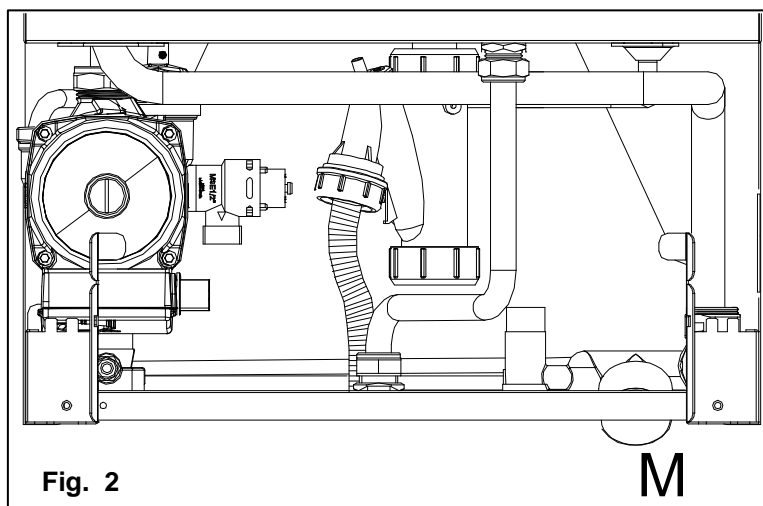
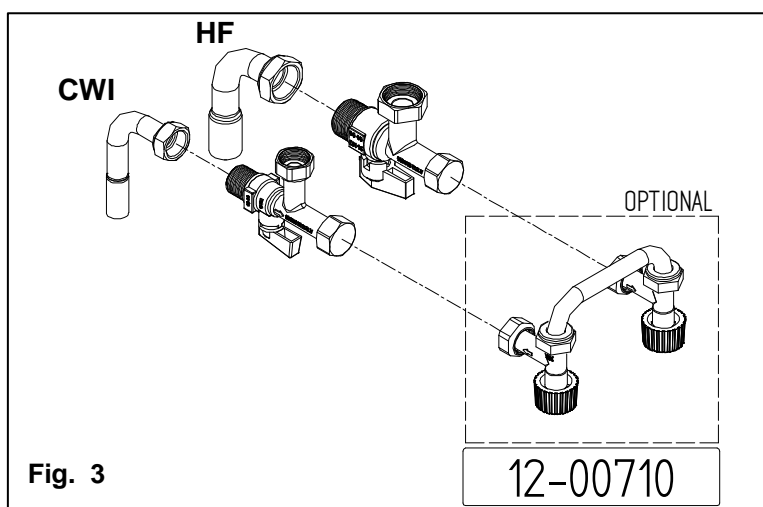

Fig. 2
Fig. 3
The water pressure in the central heating circuit must be checked during the entire period of operation of the boiler. In this respect, the reading on the pressure gauge **M** (see fig. 2), located on the lower part of the boiler, must not be less than 1 bar.
To bring the system back up to pressure, open the external filling loop valve (see fig. 3) and use the pressure gauge **M** (see fig. 2) to check that the system pressure reaches 1 bar and that the code H2O lights up.
- Check the water pressure in the central heating circuit. The reading on the pressure gauge **M** (see fig. 2), located on the lower part of the boiler, must not be less than 1 bar.